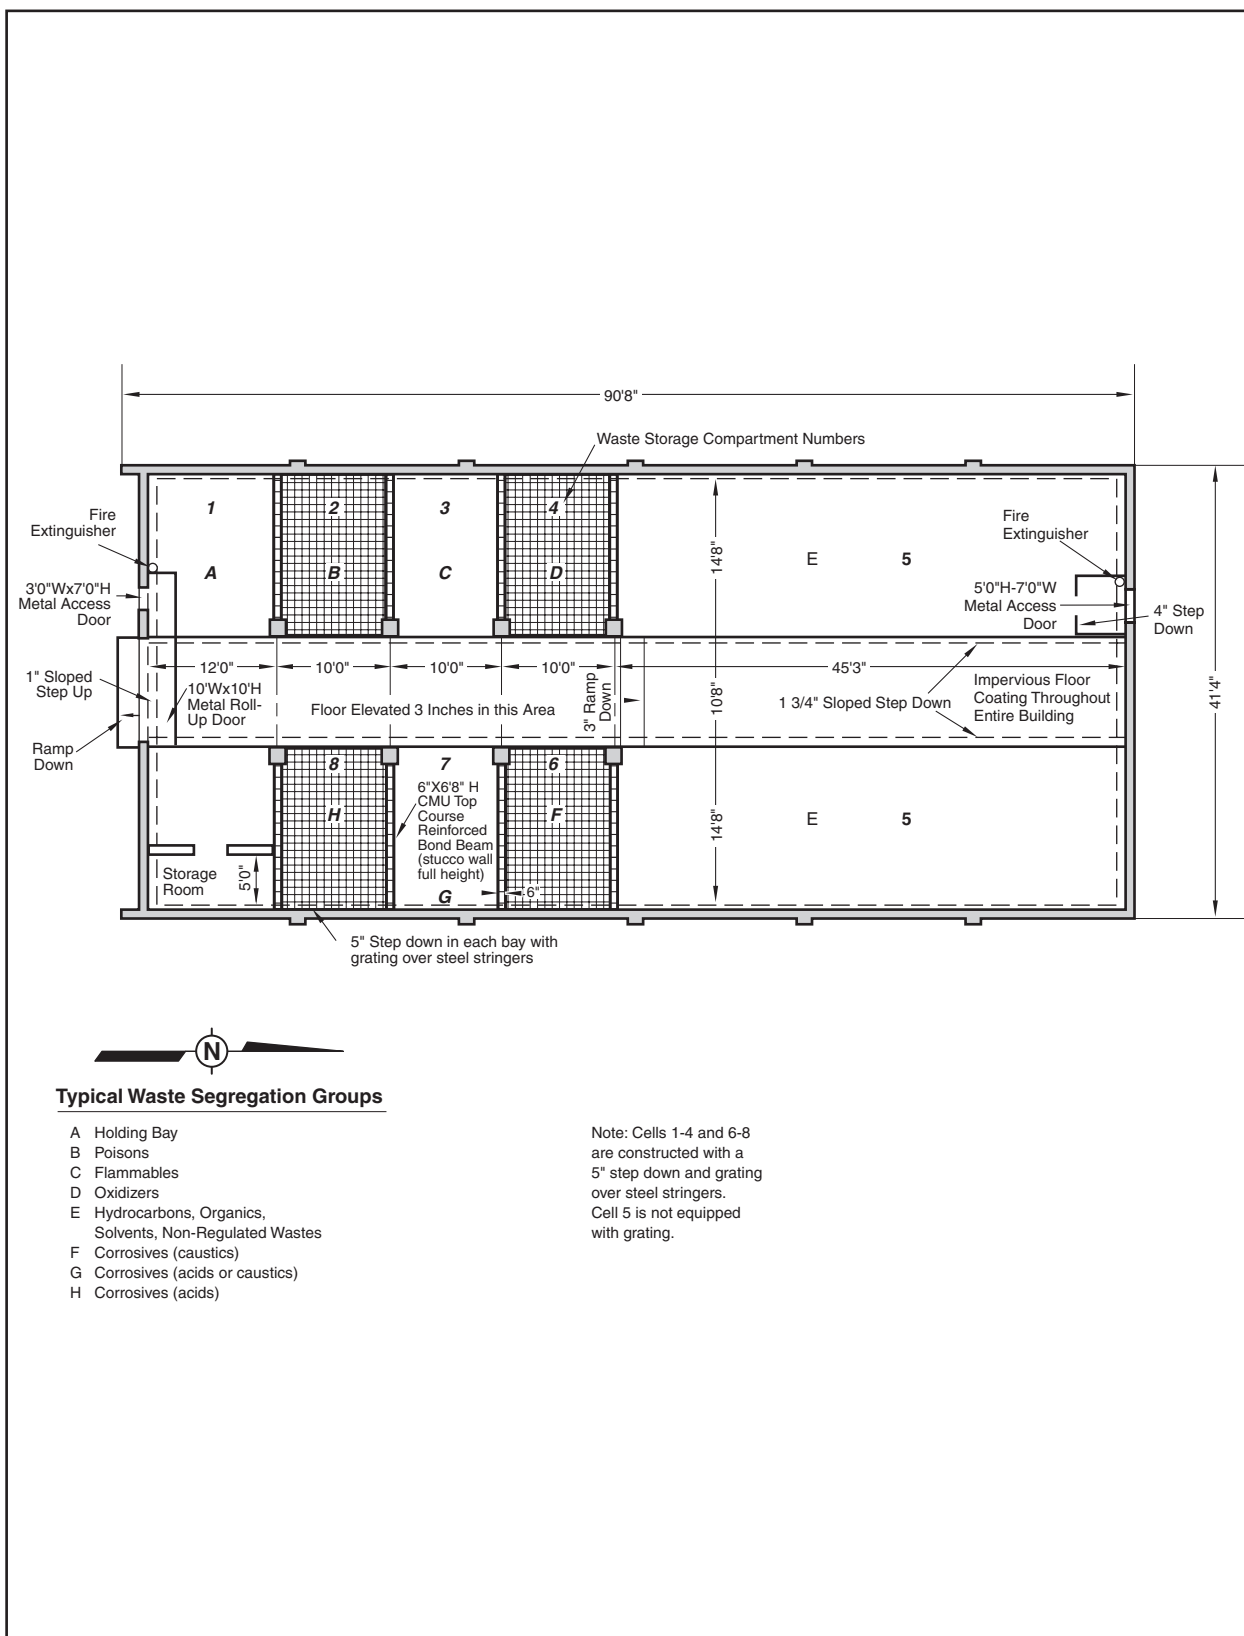

Figure 6
- Figure 6: Hazardous Waste Handling Unit Building 958 Floor Plan